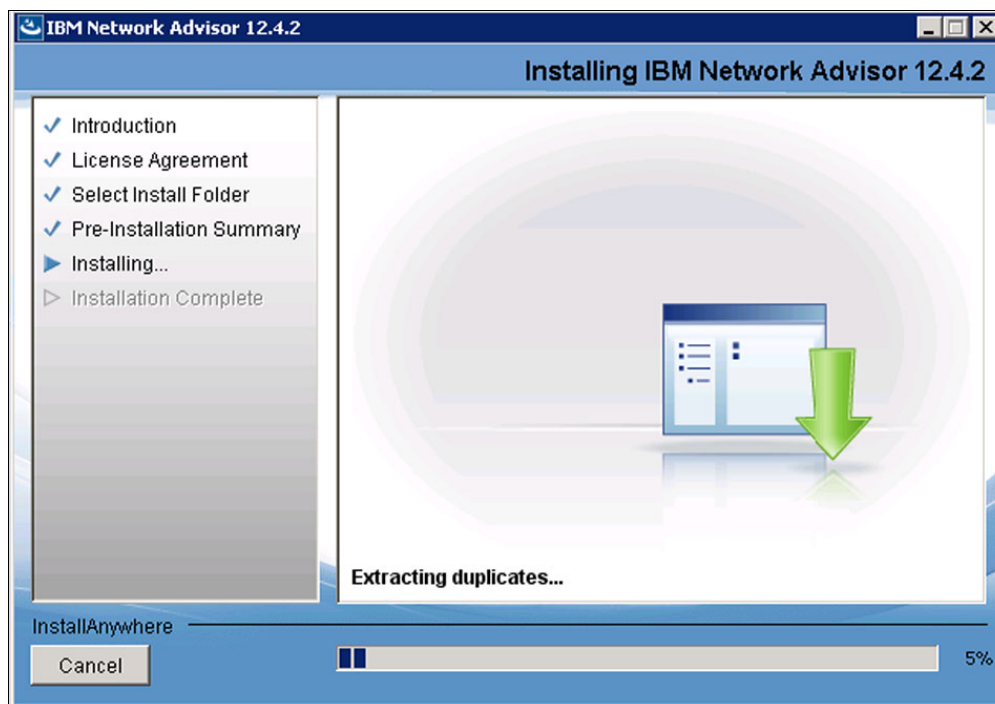

Figure 4-6 Installing IBM Network Advisor
5. After you carefully review and agree with the pre-installation summary, click **Install** to proceed with installation. Figure 4-6 shows the start of the installation process.